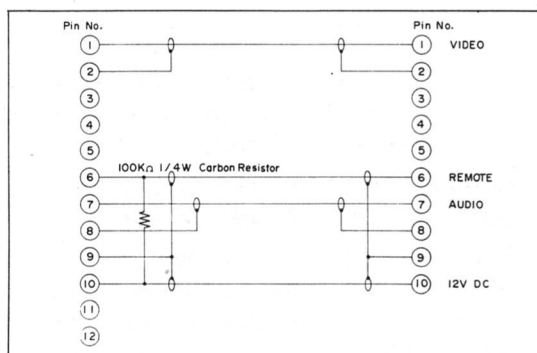

Fig 3.28 Camera Cable Part No. 01X0-016-214 Wiring Diagram
- (1) Part No. 01X0-016-214, supplied with the camera, being a cable 3m (10ft) in length and equipped with a 12-pin plug at one end, for connection to the 12-pin socket at the rear of the camera, and a 10-pin plug at the other for connection to an associated portable VTR. The cable wiring diagram is provided by Figure 3.28